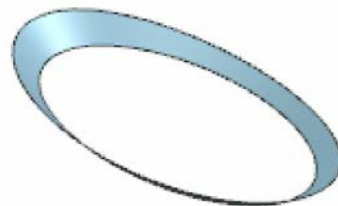

Figure 11-111 Resulting Studio surface
7. Invoke the **Studio Surface** tool and create a studio surface by using the sketch and the projected curve created earlier. The studio surface after hiding the base surface is shown in Figure 11-111.